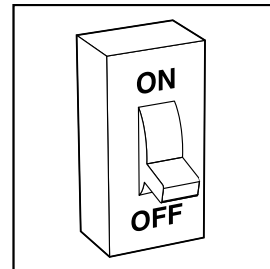

Fig. 6 - Turn Off Electrical Supply
4. **Remove** outer furnace door. (See Fig. 6.)